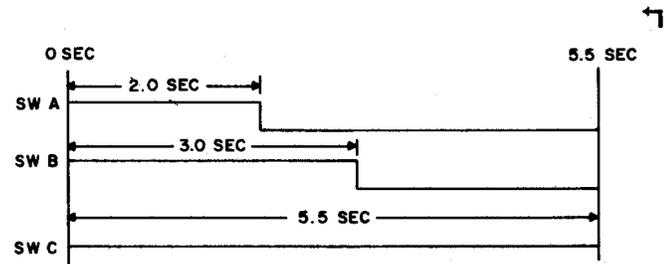

Fig. 7 — A. W. Haydon Timer, S-6402A — Timing Chart
1. Time delay shall be per Fig. 7 when operated on 40 to 50 volts dc.